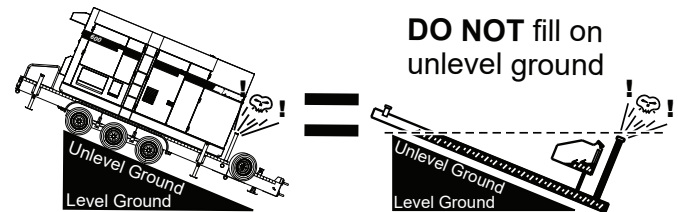

Figure 27. Only Fill On Level Ground
1. **Level the tanks.** Make sure fuel tanks are level with the ground. Failure to do so will cause fuel to spill from the tank before reaching full capacity (Figure 27).